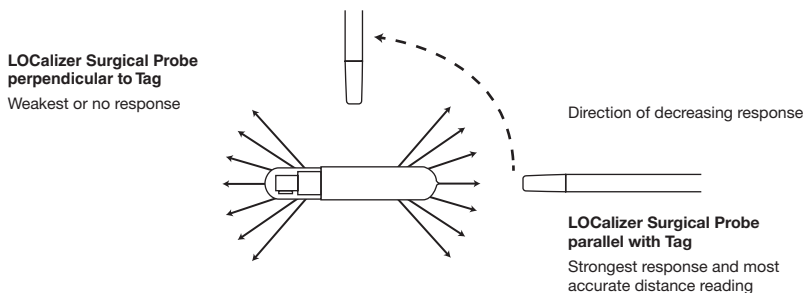

FIGURE 4. Assessing Tag location/position with Surgical Probe using signal strength (not to scale)
** As measured from end of the Surgical probe to end of Tag (*Figure 4*)